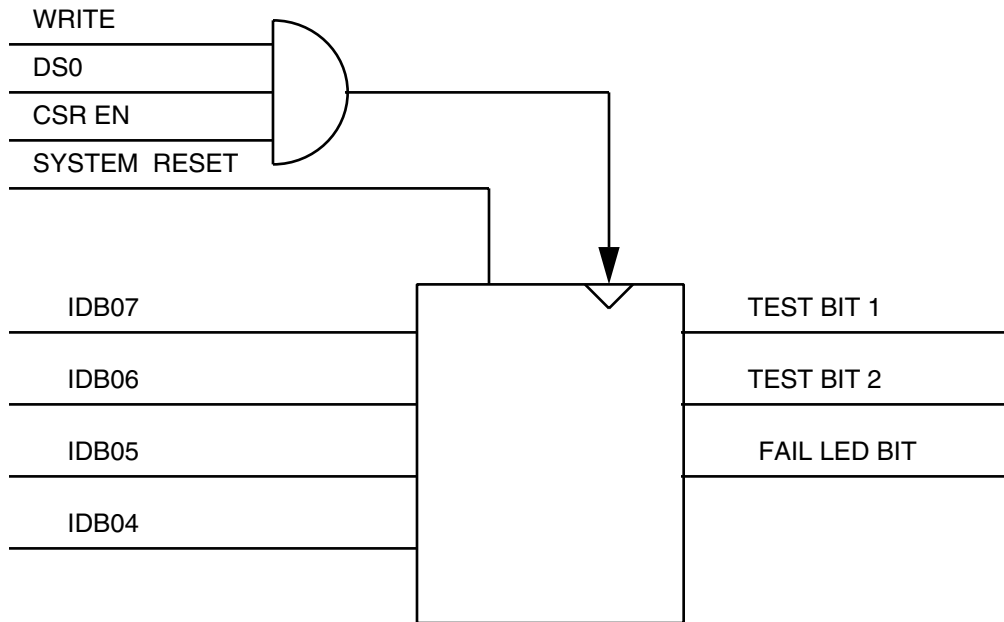

Figure 1-5 CSR Block Diagram
The CSR controls the Test Mode (TM) Bits and the front panel Fail LED as shown in Figure 1-5 below. The TM bits enable the TRI-STATE outputs of four data latches and disables the output drivers to support Built-in-Test functions. The CSR is initialized active upon system reset such that the outputs to the cable are disabled and the front panel LED is illuminated.